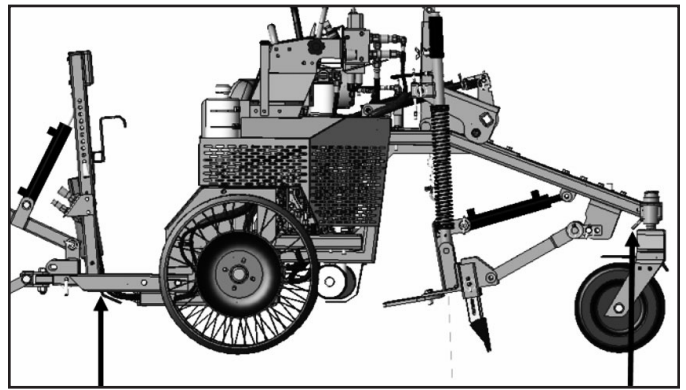

Figure 37
4. See **Figure 37** for suggested jack placement.